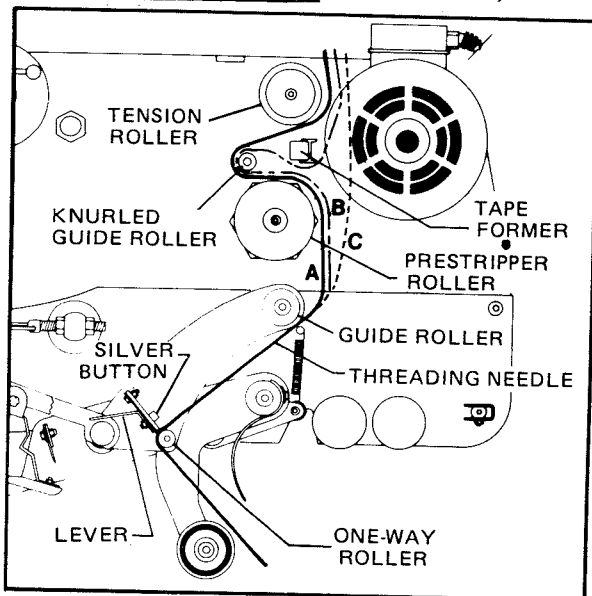

FIGURE 4A
- 3) For subsequent tape loading operations, use the red plastic threading needle and follow the loading procedures given in figures 4A, B, C and D to complete the tape threading.
FIGURES 4A & 4B - Insert the red plastic needle downward around one-way roller as illustrated in figures above. In the case of units using the external anti-backup device, illustrated in Figure 4A, press the spring away from the roller utilizing silver button or lever allowing needle to pass between tip of spring and roller.